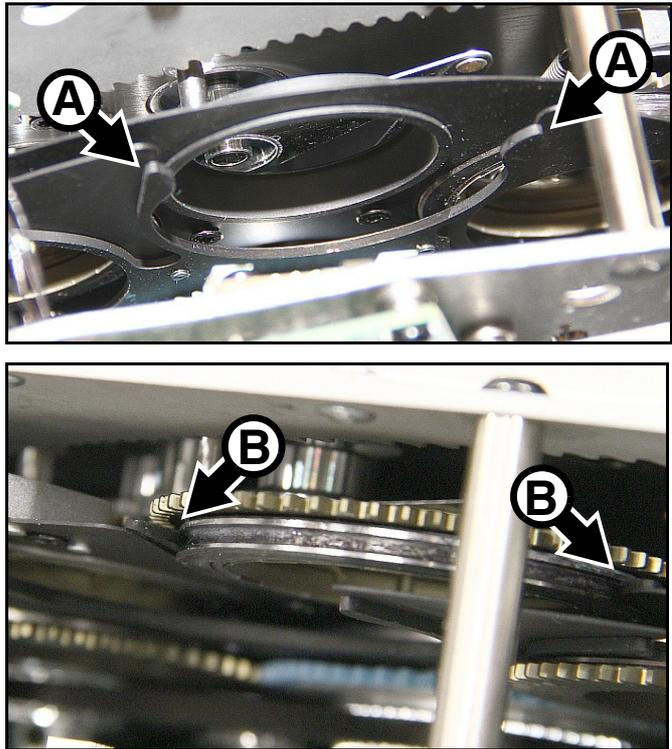

Figure 13: Goboholder clip and corresponding flange in the goboholder
See Figure 13. The goboholders in both gobo wheels are held in position by clips. When you install a gobo in a gobo wheel, you must make sure that the jaws of the clip **A** engage in the flange in the goboholder on both sides of the goboholder as shown at **B**.
5. Goboholders are held in position in the gobo wheel by clips (see Figure 13 on page 22). When you reinstall the goboholder, you must make sure that the jaws of the clip engage in the flange in the goboholder on both sides of the goboholder.